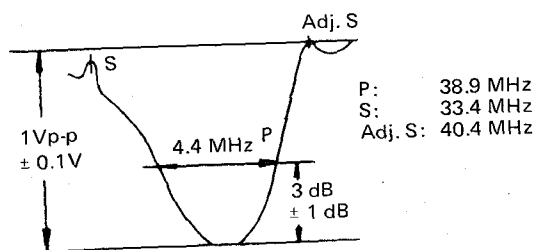

Figure 1
- 5) Adjust T202 to "Adj-S" and T206 to "S" point. Adjust T203 and T204 cores to maximize their waveforms as shown in Fig. 1.